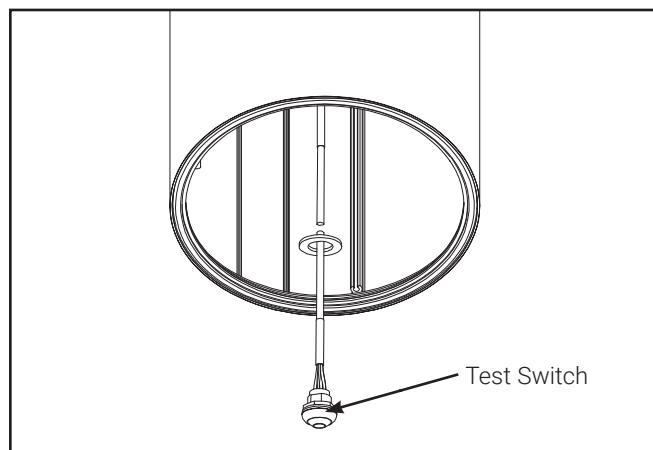

Figure 9.
1. Take out the test switch in the battery pack from cylinder. (Figure 9)